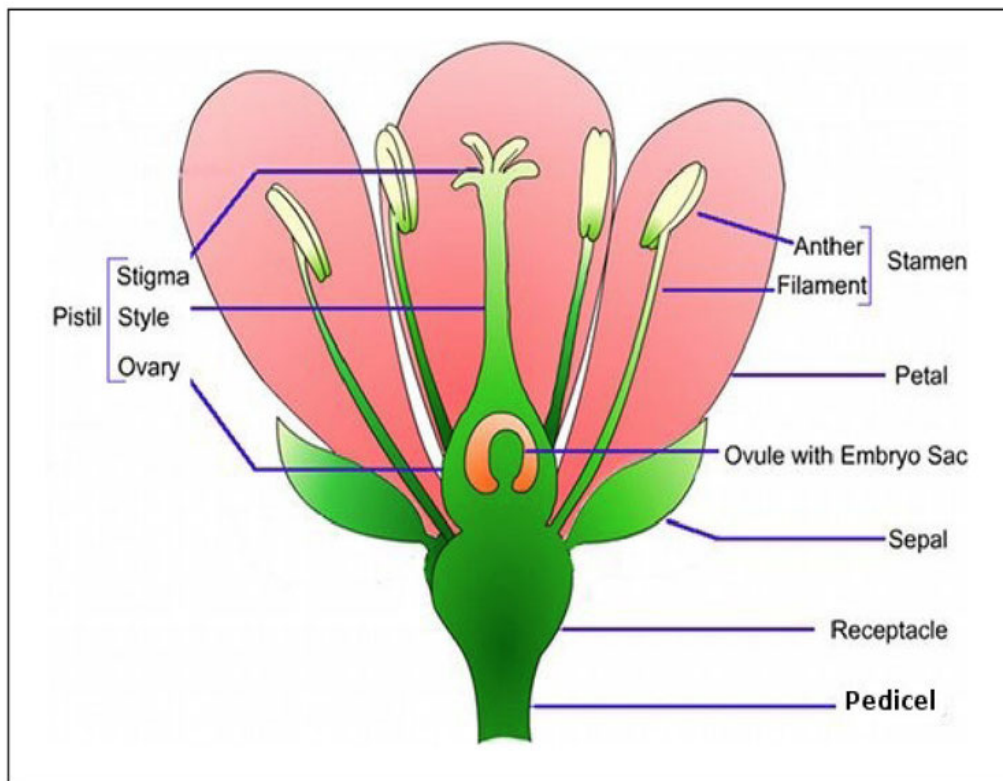

Figure 21 – Cereal Grain Reproduction
As Figure 21 shows, (10) a fertile floret comprises stamen which are each tipped with a male organ called an anther. The pistil comprises the stigma, the style and the ovary. The ovary contains an embryo sac with a single egg.